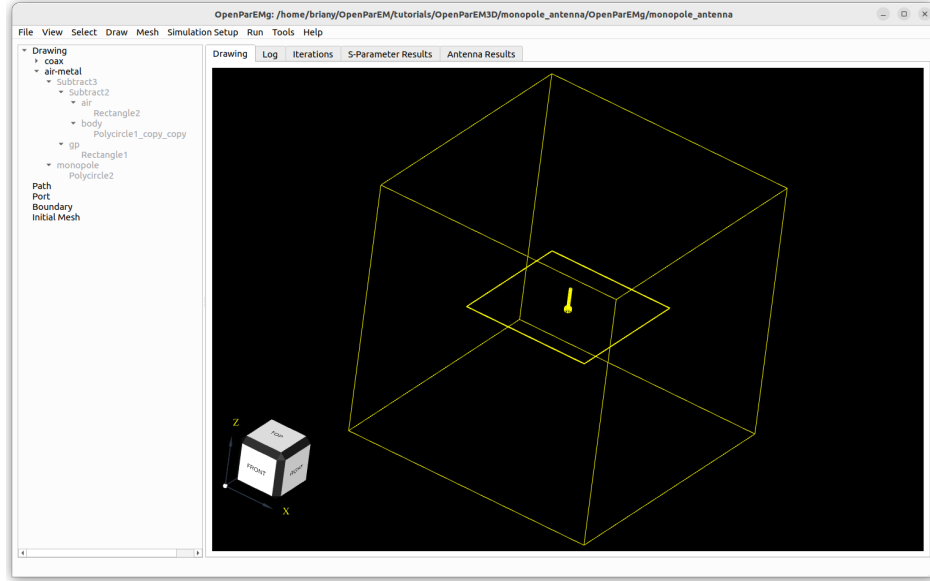

Figure 16: Selection tree after creating the metals through subtraction operations.
- Finish the creation of the metals by subtracting **body** from **air**, then **gp** from that result, then **monopole** from that result. Rename the final object **air-metal**. The resulting selection tree is shown in Fig. 16.